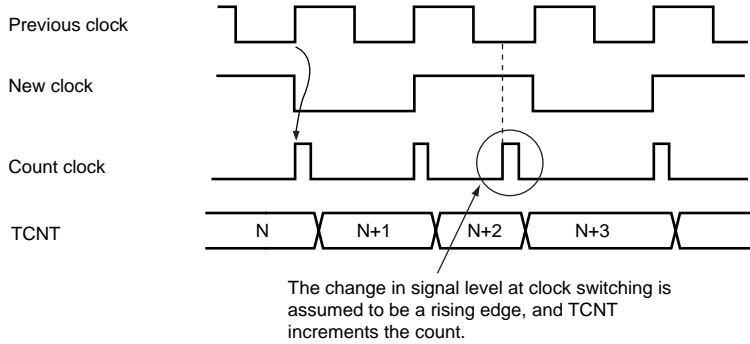

Figure 11-25 Internal Clock Switching and TCNT Operation
3. Depending on the timing, TCNT may be incremented by a switch between different internal clock sources. When TCNT is internally clocked, an increment pulse is generated from the rising edge of an internal clock signal, that is divided system clock (ϕ). Therefore, as shown in figure 11-25 the switch is from a low clock signal to a high clock signal, the switchover is seen as a rising edge, causing TCNT to increment.